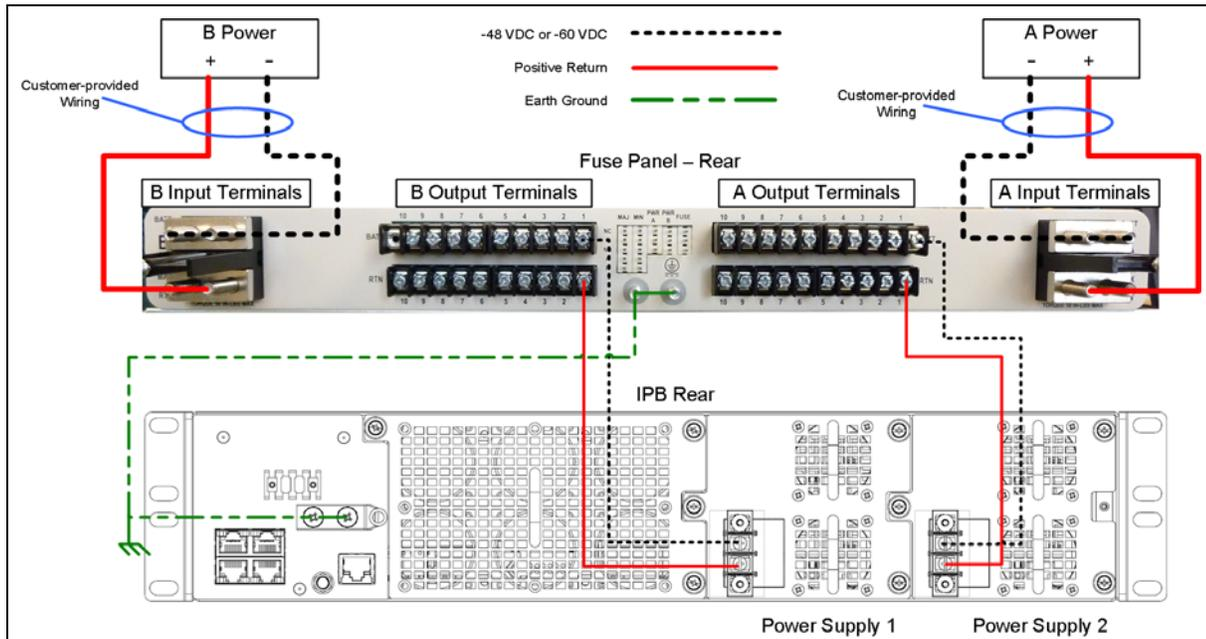
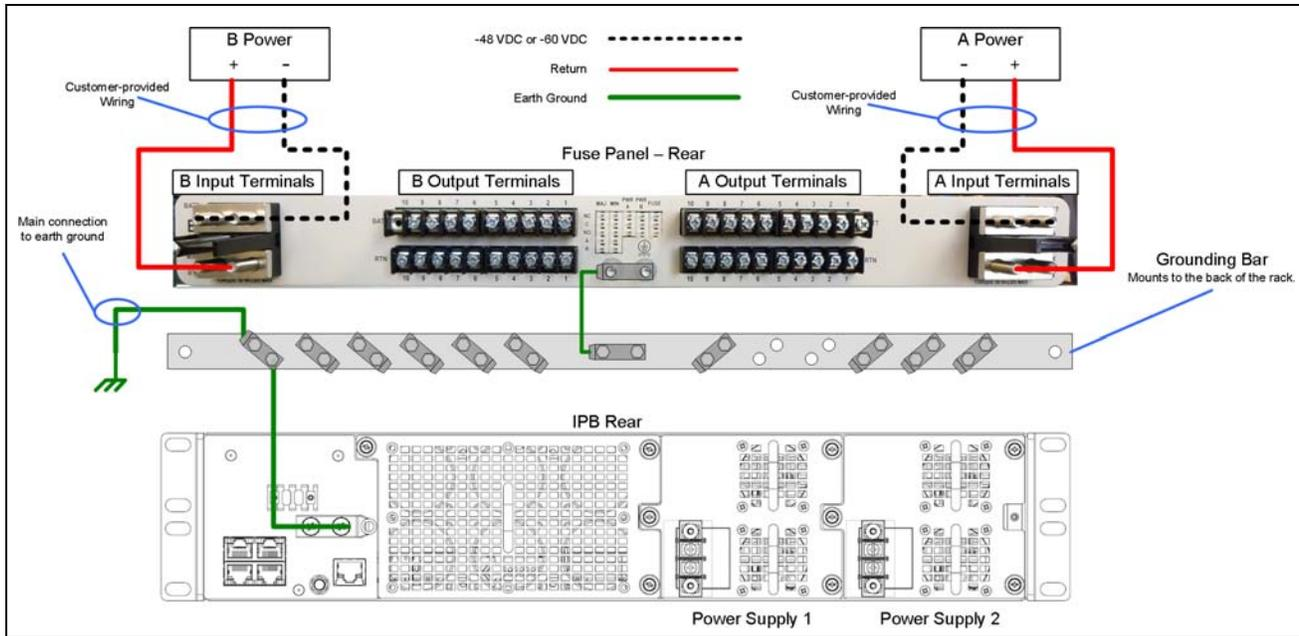

Figure 3.2 - Component Power Cabling
Figure 3.3 - Example Grounding Solution
1.	Refer to Figure 3.2 and the following bullets and connect each power feed for the IPB to the Fuse Panel. Refer to the Terminal and Wiring Recommendations for additional wiring and lug recommendations.
Systems with multiple units require a grounding solution that can adequately ground all units. **Figure 3.3** shows an example grounding solution using a grounding bar. Note that **Figure 3.3** only shows grounding cabling from the components to the grounding bar; refer to **Figure 3.2** for power cabling from the components to the fuse panel.